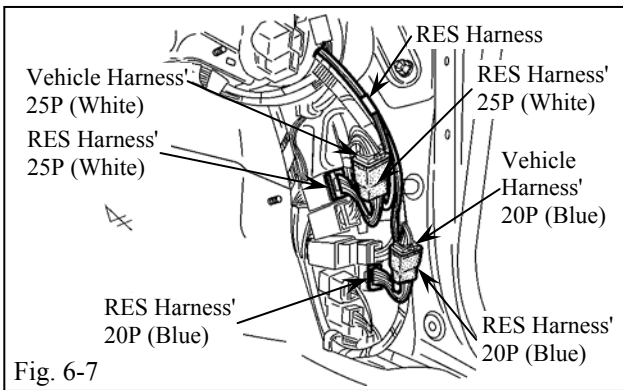

Fig. 6-7
- (i) Plug in the RES Harness' white 25P connectors between the Vehicle Harness' white 25P connector and the Passenger's Cowl Connector Block. (Fig. 6-7)
- (1) Verify the Connectors are plugged in securely.
- (j) Plug in the RES harness' blue 20P Connectors between the Vehicle Harness' blue 20P Connector and the Passenger Side Cowl Area. (Fig. 6-7)